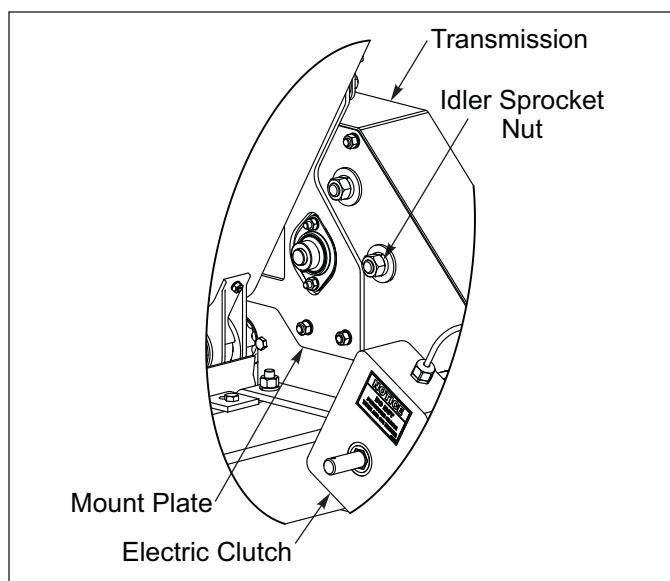

Figure 2-42: Loosen Idler Sprocket
5. On the side of the Transmission by the Electric Clutch, loosen the Transmission #40 Drive Chain Idler Sprocket Nut to disengage Drive Chain tension. **See Figure 2-42.**